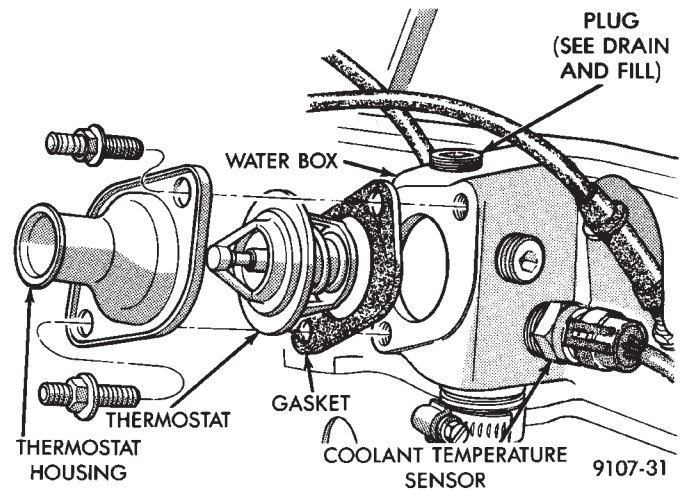
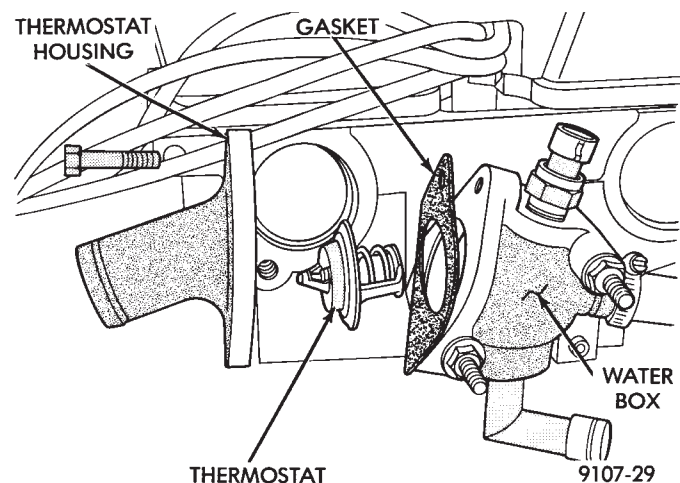

Fig. 9 Thermostat, Housing, and Water Box—2.2/2.5L Engine
Fig. 10 Thermostat, Housing, and Water Box—Turbo III
The 2.2 and 2.5L engine thermostats are located on the front of the engine (radiator side) in the water box which is part of the cylinder head construction (Fig. 9). Turbo III thermostat is located in the water box located on the driver side of the cylinder head (Fig. 10).
- (1) Drain cooling system down to thermostat level or below.
- (2) Remove thermostat housing bolts and housing (Figs. 9, 10, 11 and 13).
- (3) Remove thermostat, discard gasket and clean both gasket sealing surfaces.
Place a new gasket (dipped in clean water) on water box surface, center thermostat in water box on gasket. Place housing over gasket and thermostat, making sure thermostat is in the thermostat housing. Bolt housing to water box (Figs. 9 and 10). Tighten bolts to 28 N•m (250 in. lbs.). Refill cooling system (see **Refilling System**).